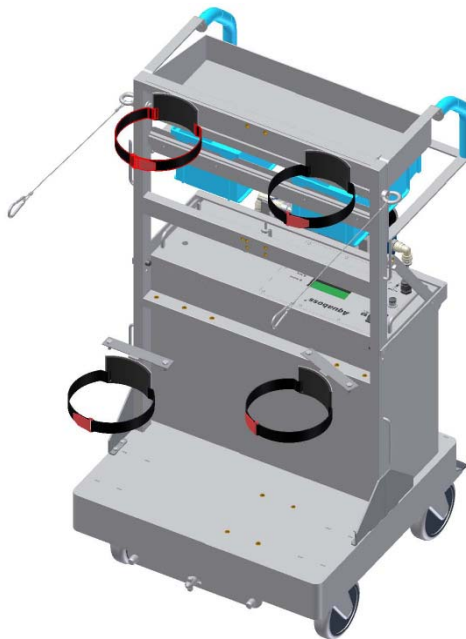

Figure 3 – Detach Velcro[®] straps
2. Unfasten four (4) M6x16 screws (LMW P/N 3049412) and detach the two (2) Velcro[®] straps that previously fixed the carbon tanks (See Figure 3)